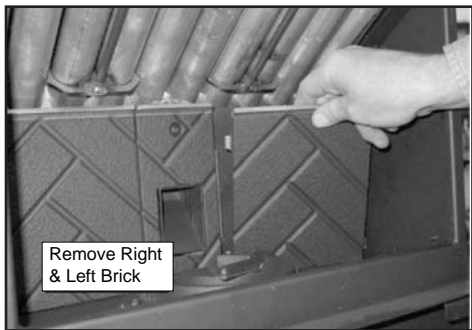

Figure 37.2
3. The top baffle must be removed before you can remove the right and left brick. Remove the right brick by holding top lip of brick and lifting up, then push outside edge back. Slide brick to the right until it is flush with the firebox. Rotate the inside edge of the brick forward and remove brick. Repeat for left brick. **Figure 37.2.**